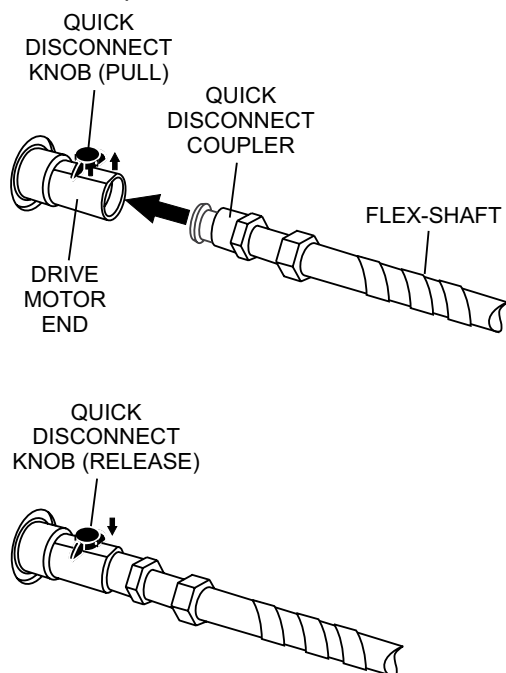

Figure 4. QD Coupler Connection
1. Pull upward on drive motor quick disconnect knob. Insert coupler-end of flext-shaft into drive motor housing. Reference Figure 4.